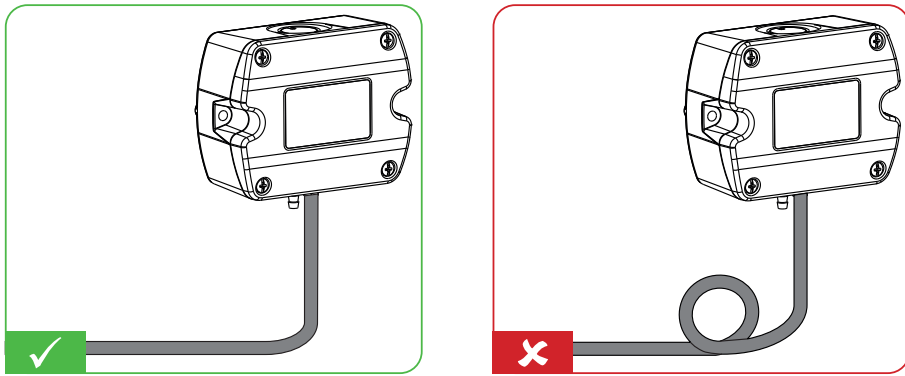

Fig. 9 Pressure hose route
- Connect the pressure hose (included in the scope of supply) first to the EE600 and then to the nipples at the duct. Route the pressure hose for avoiding sharp bends which might lead to the hose obstruction (Fig. 9 Pressure hose route).